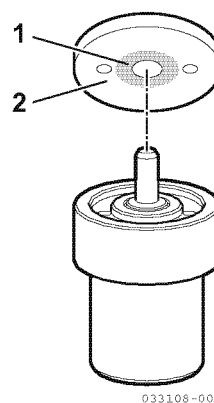

Figure 7-43
6. Inspect the sealing surfaces (2, **Figure 7-43**) between the valve stop spacer and nozzle body for nicks or scratches. Check the contact area between the valve stop spacer and the nozzle valve (1, **Figure 7-43**) for scoring or pitting. Use a magnifying glass to inspect.